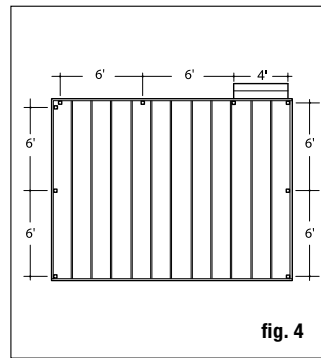

fig. 4
**Step 7** Position the rail alongside the posts using 6" maximum spacing between bottom rail, riser, and stair tread. With the top railing resting on the continuous stair rail, center the continuous stair bracket to be centered on the post. Mark the bottom of the bracket. Then cut the post 3/8" above the mark to allow for the flange on the bottom side of the bracket (fig. 4).
**Step 9** A rail support is needed every 2 feet (**2 are included in the 6ft rail kit, 3 in the 8ft kit**). Attach rail support connectors to the bottom of the lower rail at 2-foot intervals using included screws. Pre-drill using a 1/8" drill bit. Mark the location of the rail support on the step tread and attach the other rail support connectors to the step tread. **Drill one 1/4" drain hole through the bottom of the rail to prevent trapping water.** Position the hole toward the lower end of the rail, roughly 1.5" from rail end to avoid the lower bracket (fig. 4).
**Step 1** Determine the layout and number of railing posts needed for your deck. Post spacing is 6' or 8' on-center. Cable posts are available pre-drilled for end, line and corner posts. Cable is available in lengths of 5', 10', 15', 20', 25', 30', 40' and 50'. Many layout options are possible. One tip is to start with the most visible run. It's the one on which you want the least interference with the view, so you can start from there and build around it. Corner applications: When taking cable through a corner, do not bend the cable past 45° at any time. When turning 90°, use a corner post (fig. 2b) or make a 2-step turn using a double corner post configuration (fig. 4), or stop the cable run and start a new run. Example: A 12' x 16' deck attached to a building with a 4' access opening on one side will require a total of nine posts (eight if using corner post).